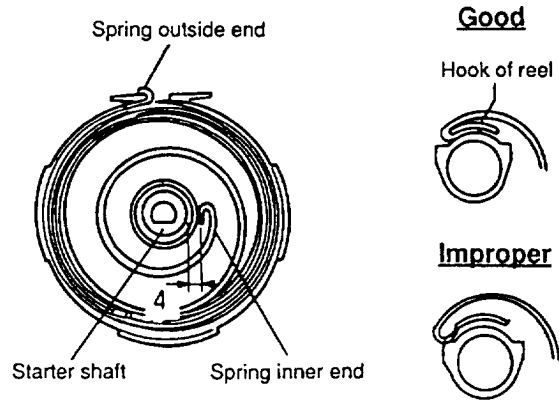

Figure 6-32 Recoil starter spring
- 1) Check that the spring is set correctly in the starter case housing. Adjust the shape of the inner end of the spring to locate it at about 4 mm from the starter shaft to ensure that the reel's hook engages with the spring correctly. See Figure 6-32. (The inner end of the spring can be reshaped by pliers for a length of about 10 mm.)